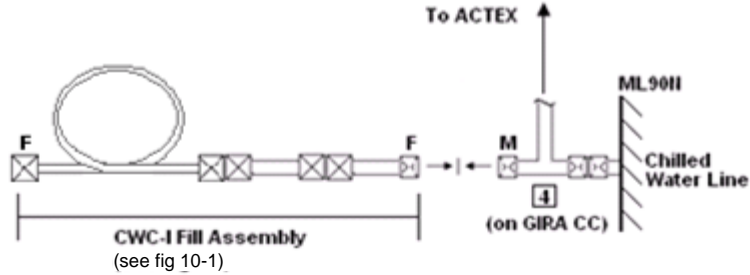

Figure 10-2.- CWC-I Fill Assembly connection at ML90N.
3. Connect R/Y QD Adapter to free end of Tee attached to Chilled QD (#4 on GIRA Cue Card) at QD bracket (see fig 10-2)